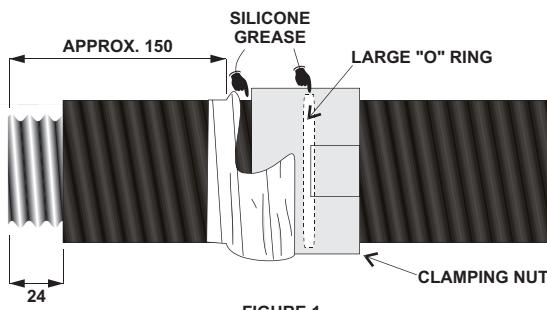

FIGURE 1
Step 1) Prepare waveguide (as shown in Figure 1). The end of the waveguide must be square. Use a straight edged piece of paper wrapped around the waveguide whilst cutting to stop copper chips from entering. Remove all burrs from the cut end of the waveguide using a knife and file. Clean exposed copper with solvent. Clean inside of the waveguide with a bottle brush.